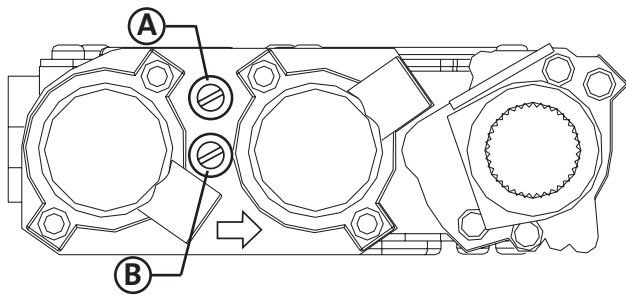

Figure 37. Pressure test points.
**Pressure Test:** Attach a manometer to the appropriate test point on the valve. See fig. 37. The gauge connections are located on the front of the valve. Connections are identified by: